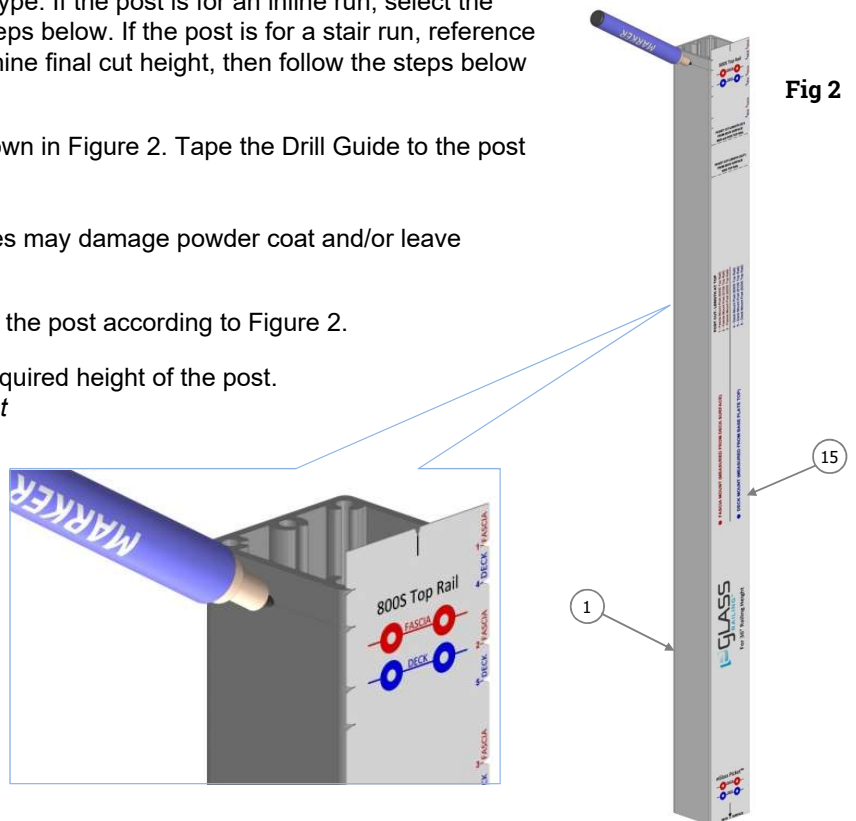

Fig 2
- Select a post blank (1) and identify the post type. If the post is for an inline run, select the appropriate Drill Guide (15) and follow the steps below. If the post is for a stair run, reference your Customer Detail Form instead to determine final cut height, then follow the steps below regarding post cutting and touch-up advice.
- Place the Drill Guide (15) on the post, as shown in Figure 2. Tape the Drill Guide to the post using painter's tape.
- Only use the Drill Guide on the scribe side of the post according to Figure 2.